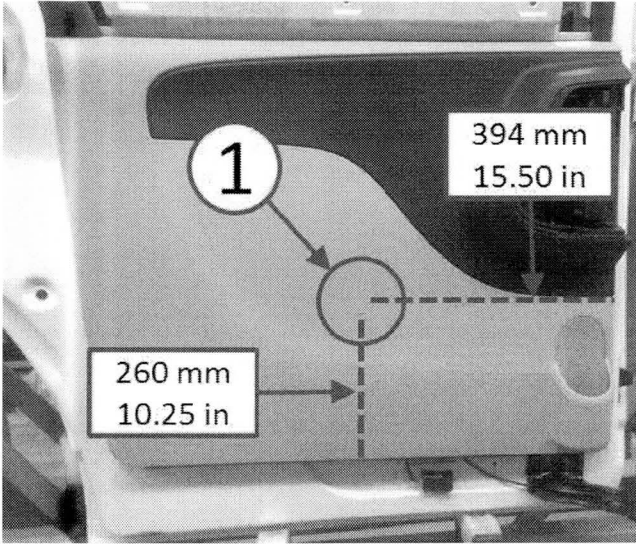

Fig. 9 Dual Lock Engagement Location
12. ****Seat the door trim panel by pressing with firm pressure at the attachment location (1) a specified distance from bottom and leading edge of the door trim panel (Fig. 9).****